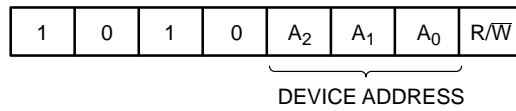

Figure 3. Slave Address Bits
The Master initiates data transfer by creating a START condition on the bus. The Master then broadcasts an 8-bit serial Slave address. The first 4 bits of the Slave address are set to 1010, for normal Read/Write operations (Figure 3). The next 3 bits, A₂, A₁ and A₀, select one of 8 possible Slave devices. The last bit, R/\overline{W} , specifies whether a Read (1) or Write (0) operation is to be performed.